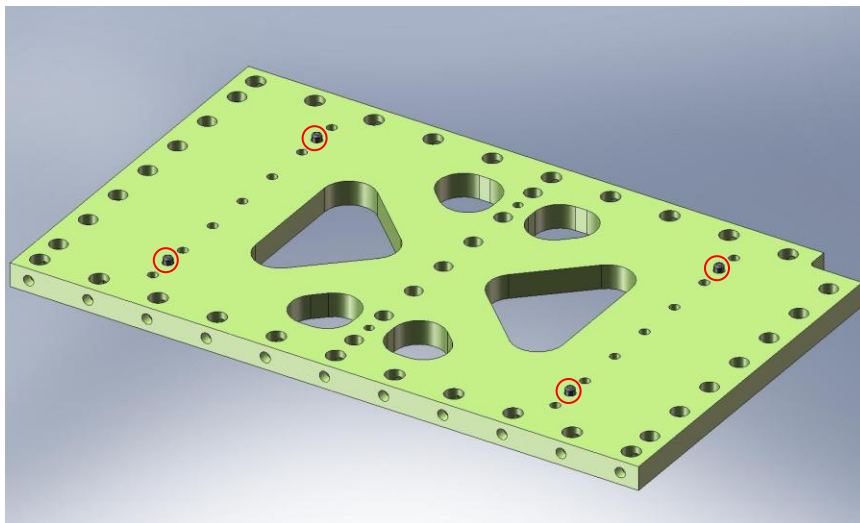
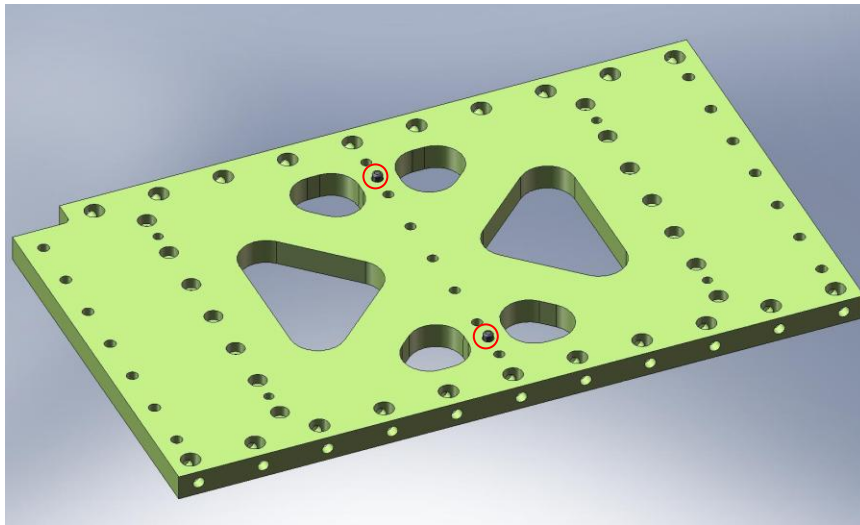

Figure 2.6. Dowel pins pressed into one side of Tangential Rib (D071052).
Figure 2.7. Dowel pins pressed into opposite side of Tangential Rib (D071052).
- Insert Heli-Coils into (3) **Rib, Tan, Flexure Mid** plates (D071071):
- Press (4) 3/8"x.75" dowel pins (McMaster-Carr #90145A622) into one side of each of (3) **Rib, Tan, GS-13 Mid** plates (D071052), as shown in Figure 2.6. The pins should all stand .25" proud of the plate surface. For each plate, press (2) more 3/8"x.75" pins into the opposite face, as shown in Figure 2.7. Again, the pins should sit .25" proud of the plate surface.